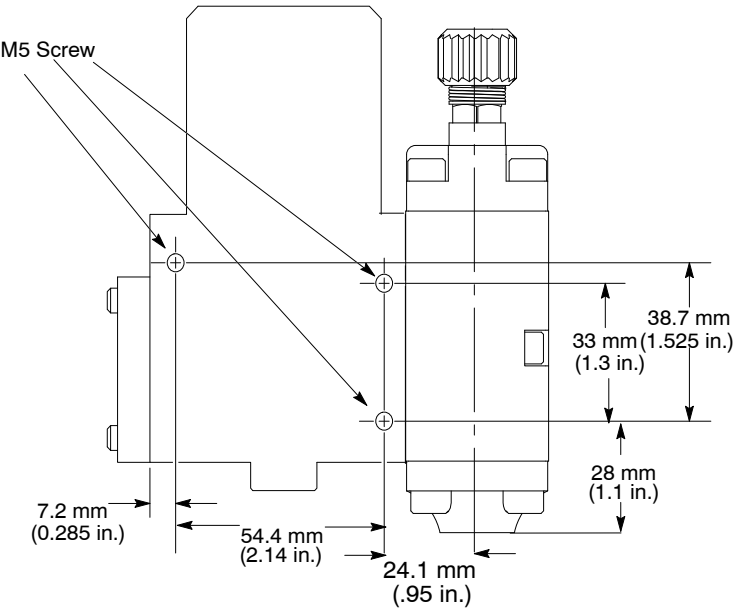

Figure 3: Mounting Dimensions for AG-900+/AG900+S Applicator with Regulator
- 1. See Figures 3 and . Remove the M5 mounting screws.